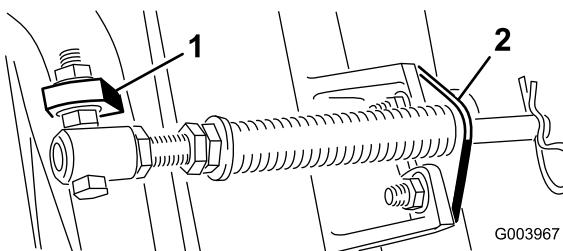

Figure 5
The bolt head is to be positioned to the outer side of the tab as shown in Figure 5.
- Mount the rod bracket to the cutting-unit tabs with the carriage bolts and nuts (Figure 5).